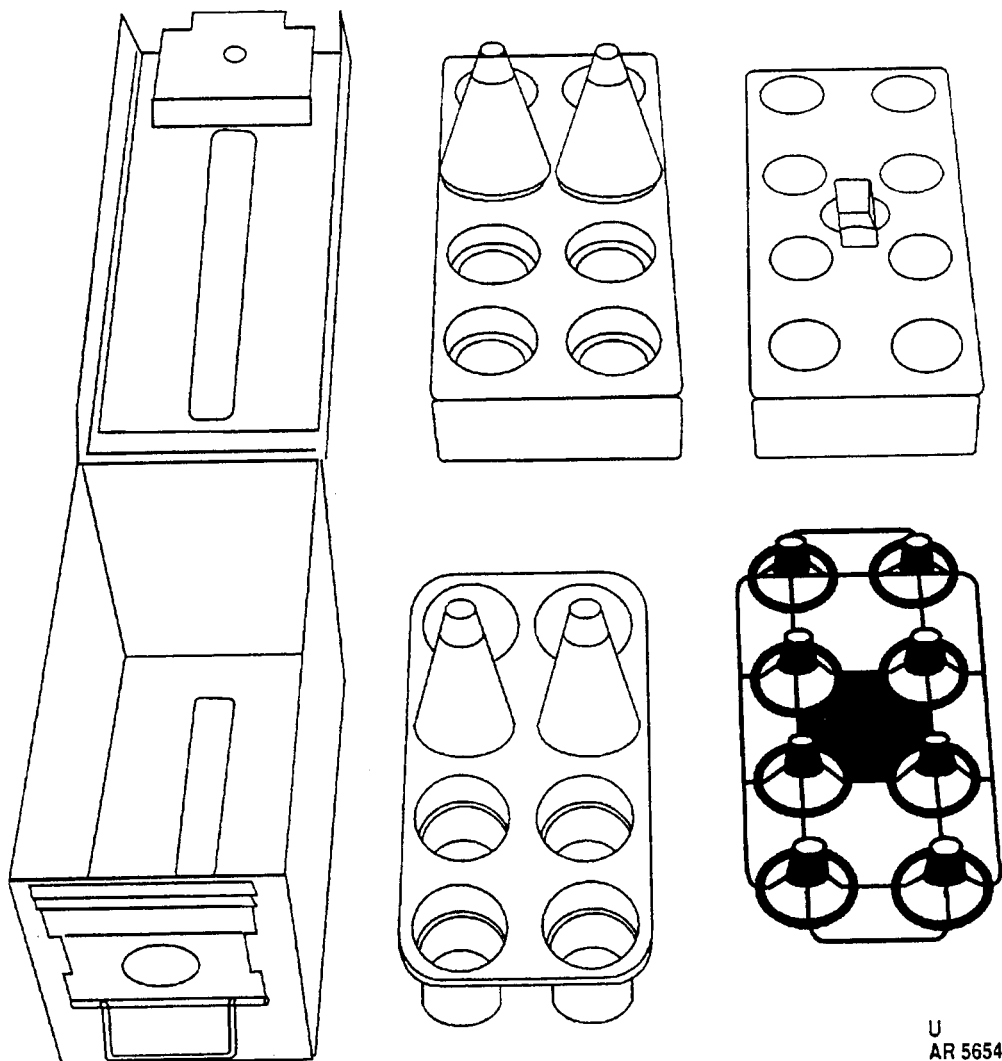

Figure 3-8. Fuzes Packed in M2A1 Metal Box.
3.3.12 Metal Box (such as M2A1) (fig. 3-8).